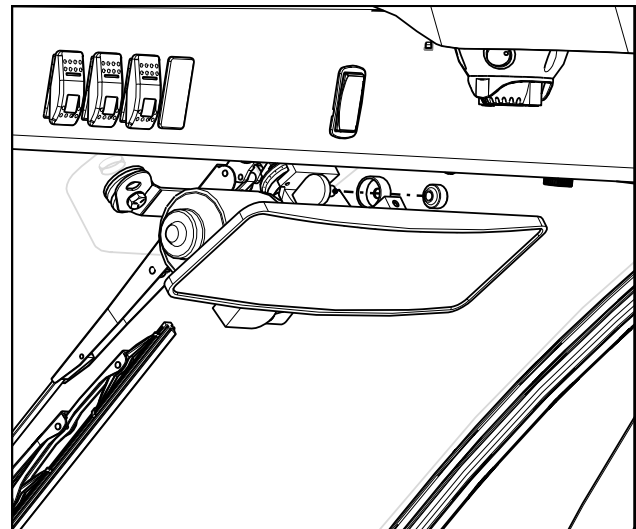

Fig. 2.4
- 2.4 Attach the mirror head to the mounting bracket by removing the knurled knob, placing the mirror head onto the threaded stud of the mounting bracket, then placing the knurled knob to hold the mirror in place. Adjust the viewing angle as much as possible before finger tightening the knob. See figure 2.4.